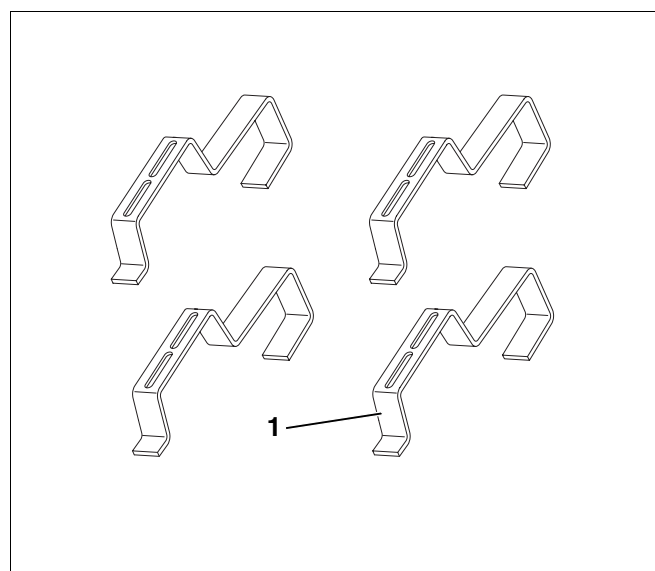

Fig. 5 Roof hook installation set
4.2.4 Roof hook installation set (for pantile and brick ridges) – Fig. 5